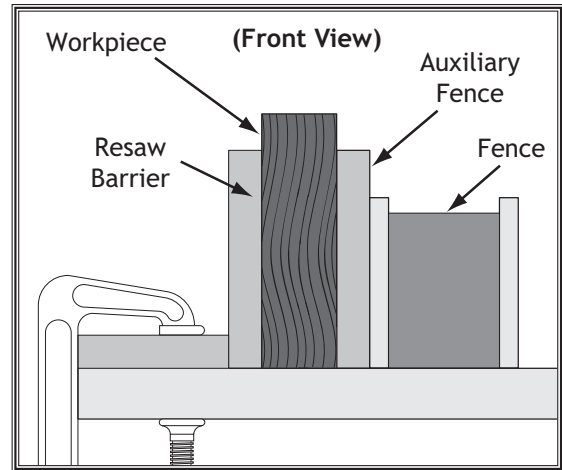

Figure 68. Ideal resaw workpiece setup.
- Place the workpiece against the auxiliary fence and slide the resaw barrier against the workpiece, as shown in **Figure 68**. Now clamp the resaw barrier to the top of the table saw at both ends.